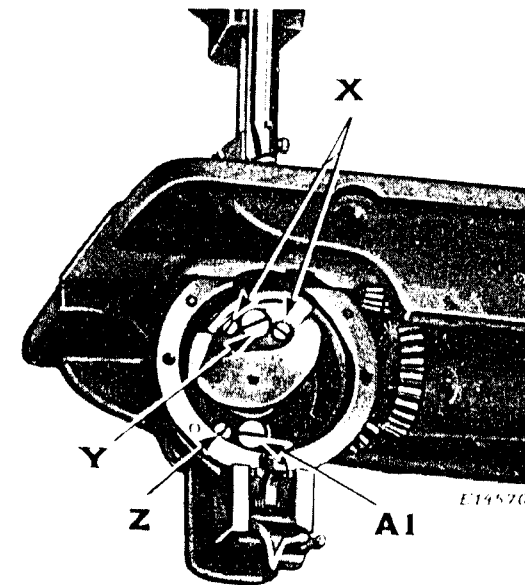

Fig. 13 Hook Bracket Adjustments
adjusting screws (X and Y, Fig. 13) near the top of the hook bracket and two (Z and A1) near the bottom; slightly loosen the lower and upper screws (A1 and Y), then carefully tighten the two screws (X), drawing the hook as close to the needle as desired and tighten both screws (A1 and Y) firmly. Be careful that the hook bracket is moved out squarely so that the hook will be as close to the needle when entering the inside loop as it is when entering the outside loop; if it is not, loosen one of the screws (X) and tighten the other to bring the hook bracket out squarely.
Loosen the screws (X and A1, Fig. 13) then turn the screw (Y) slightly inward until the point of the hook is the desired distance from the needle and tighten the screws (X and A1).
To increase the openings between the hook driver and the hook to allow the thread to pass easily between them, slightly loosen the screws (A1 and Y, Fig. 13), turn inwardly the screw (Z) and tighten both the screws (A1 and Y). To reduce the openings, turn outwardly the screw (Z) and tighten the screws (A1 and Y). Verify the correctness of the timing before commencing to sew.